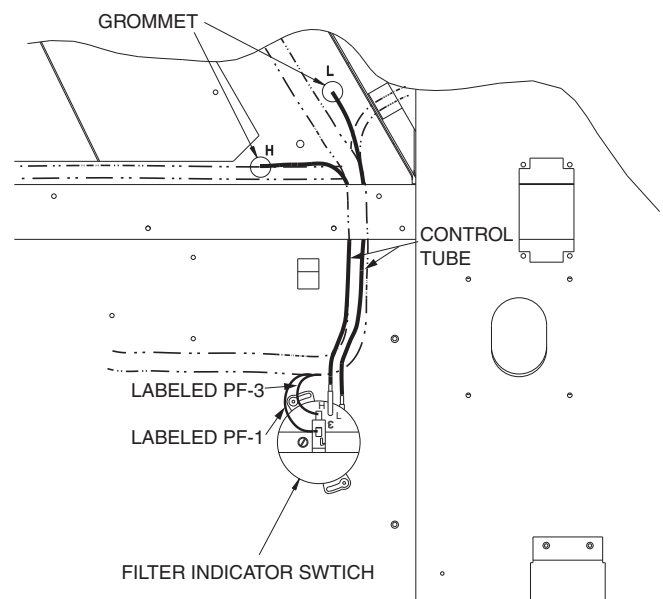
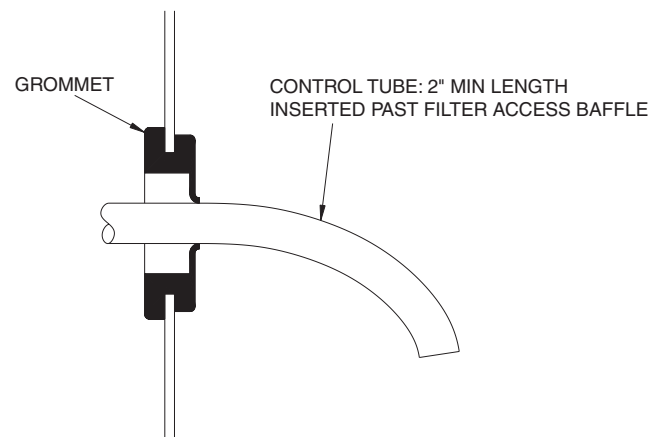
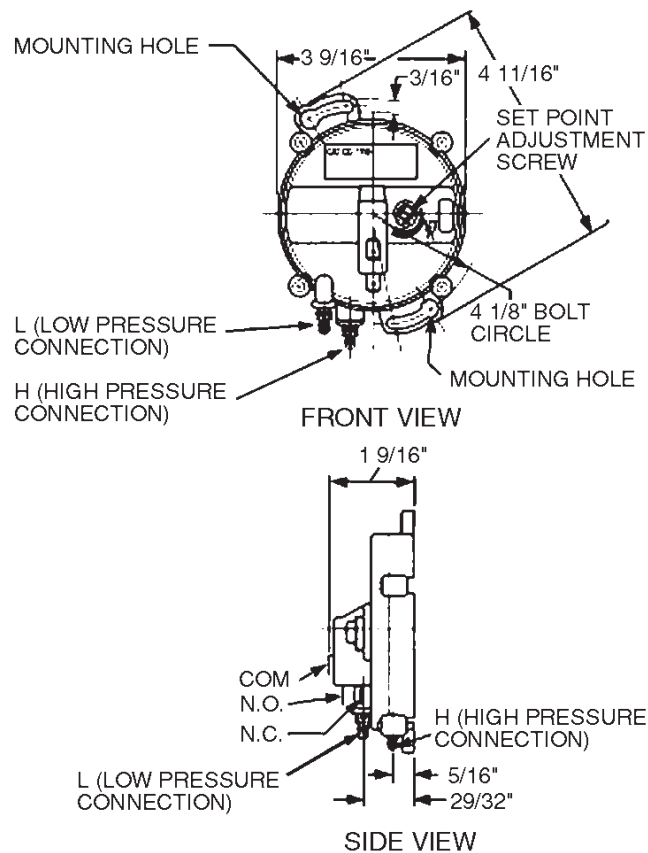

Fig. 1 — Control Tube Routing (48/50A020-060)
Fig. 2 — Control Tube and Grommet (48/50A020-060)
Fig. 3 — Indicator Connections and Adjustments
3. Mount the filter switch to the right of the auxiliary control box (see Fig. 1) using two no. 6 screws.
4. Connect control tubes as shown in Fig. 1. Remove plug bottoms, insert grommets and route tube through wall as shown in Fig. 2. See Fig. 3 for dimensions.
5. For sizes 030-050, route the tube down the filter section upright, then along the base rail to the auxiliary control box in the power exhaust section. Gently secure the tube using the wire ties (Item 5), making sure not to pinch the tube. Use the bushing (Item 10), if it is not already installed. Cut excessive length of the tube. Connect the control tube to the switch port labeled "L". See Fig. 3.
6. For 48/50P055-100 and 48/50Z055-105 units, route the tube down the filter section upright to the auxiliary control box. Gently secure the tube using the wire ties (Item 5), making sure no to pinch the tube. Cut excessive length of the tube. Connect the control tube to the switch port labeled "L". See Fig. 3.
8. For sizes 030-050, route the tube down the filter section upright, then along the base rail to the auxiliary control box in the power exhaust section. Gently secure the tube using the wire ties (Item 5), making sure no to pinch the tube. Cut excessive length of the tube. Connect the control tube to the switch port labeled "H". See Fig. 3.
9. For 48/50P055-100 and 48/50Z055-105 units, route the tube down the filter section upright to the auxiliary control box. Gently secure the tube using the wire ties (Item 5), making sure not to pinch the tube. Cut excessive length of the tube. Connect the control tube to the switch port labeled "H". See Fig. 3.